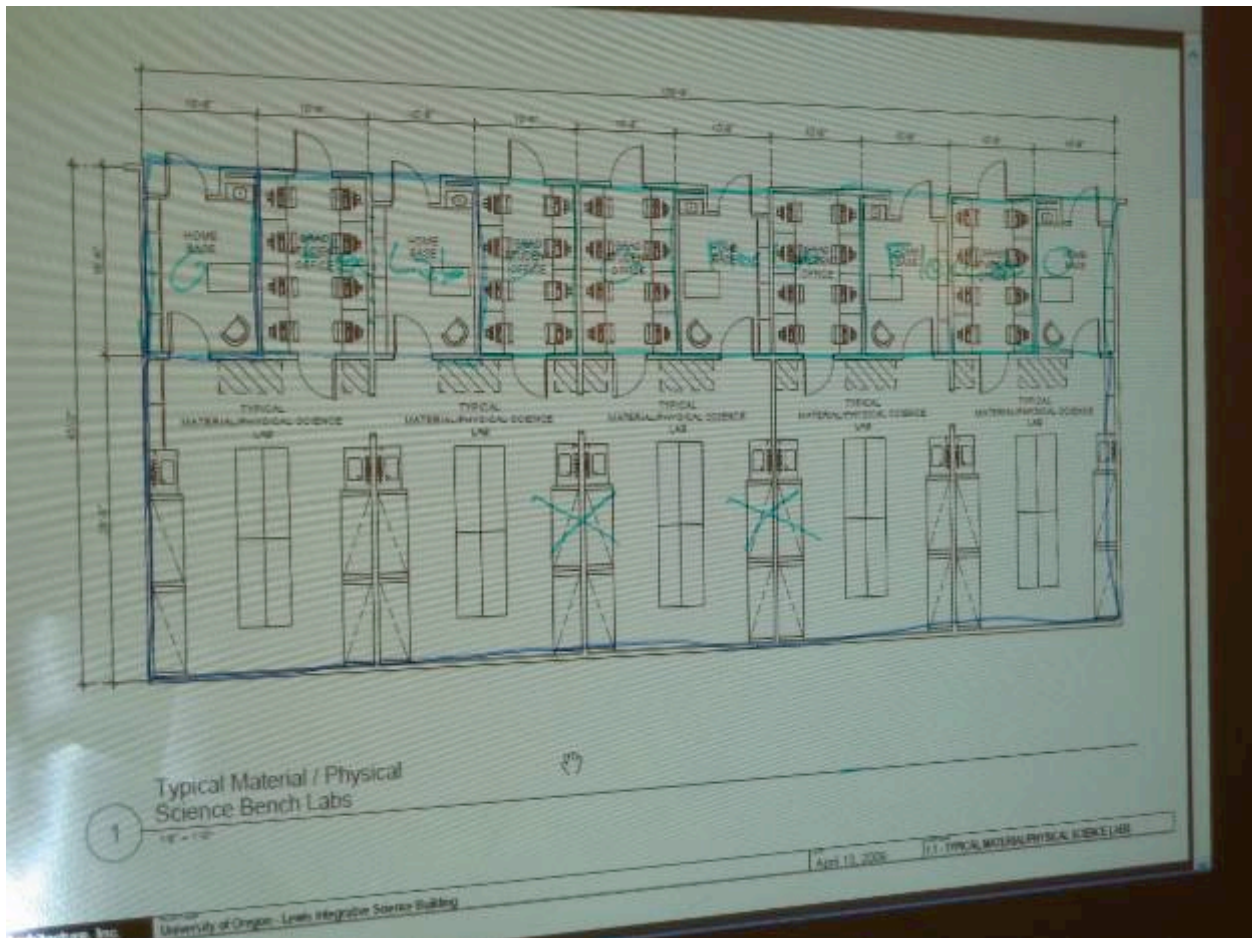

Figure 1
Wet Labs (*refer to figures 1 & 2*)
16. Fume hood density to be priced as is and minus the four hoods indicated in figure 1.